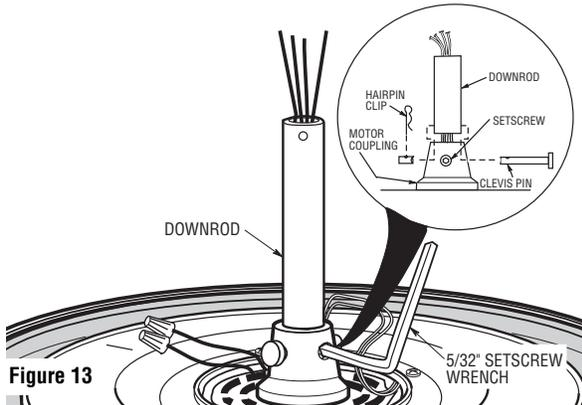

Figure 13
23. Install the setscrew (supplied) in the motor coupling and tighten using the 5/32" setscrew wrench (supplied) (Figure 13).